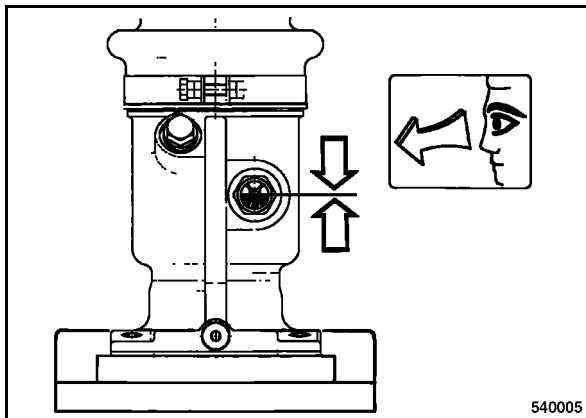

Fig. 77
- Clean the inspection glass (Fig. 77) and check the oil level.